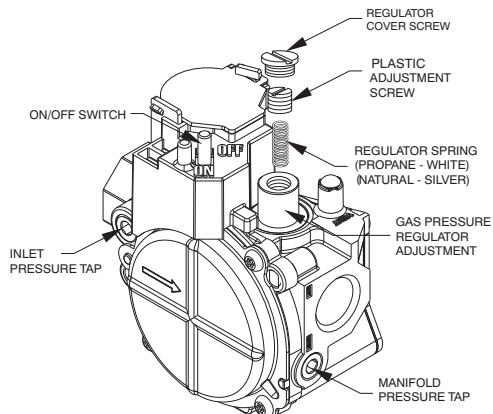

Fig. 12 - Single-Stage Gas Valve
- Remove regulator cover screw over plastic adjustment screw on gas valve (See Fig. 12).
- Turn plastic adjustment screw clockwise to increase gas input, or turn plastic adjustment screw counterclockwise to decrease input (See Fig. 12). Manifold pressure must be between 3.2 and 3.8 IN. W.C.
- Replace regulator cover screw on gas valve (See Fig. 12).